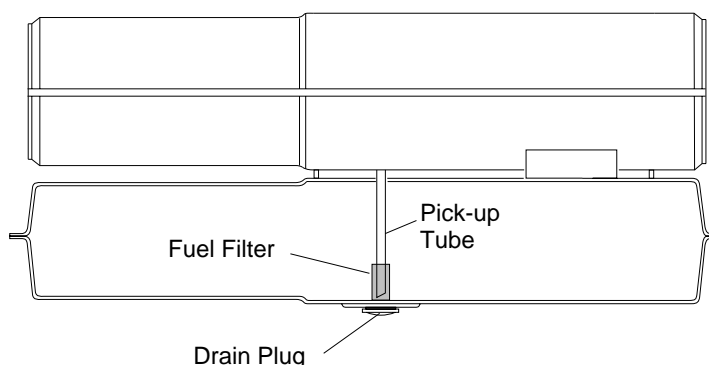
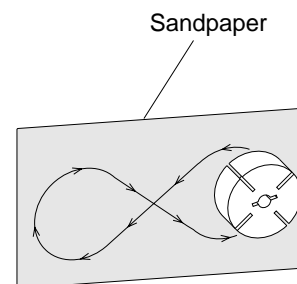

Figure 8 - Fuel Filter Removal
Figure 20 - Sanding Rotor
14. Place fine grade sandpaper (600 grit) on flat surface. Sand rotor lightly in "figure 8" motion four times (see Figure 20).